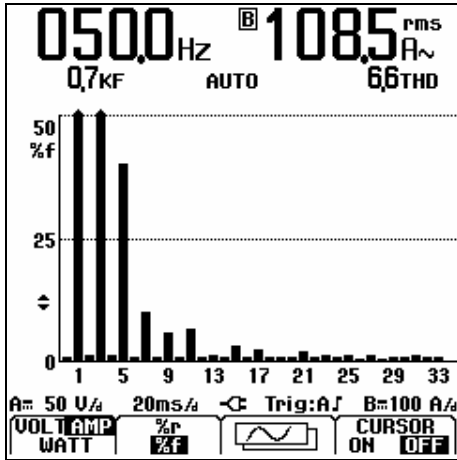

Figure 3-2. Harmonics Screen
- 4  Accept your choice. You will see a screen like figure 3-2
Observe the top of the long bars in figure 3-2. The arrow shape indicates that the harmonics are zoomed in. The scale at the left side changes when zooming in or out.